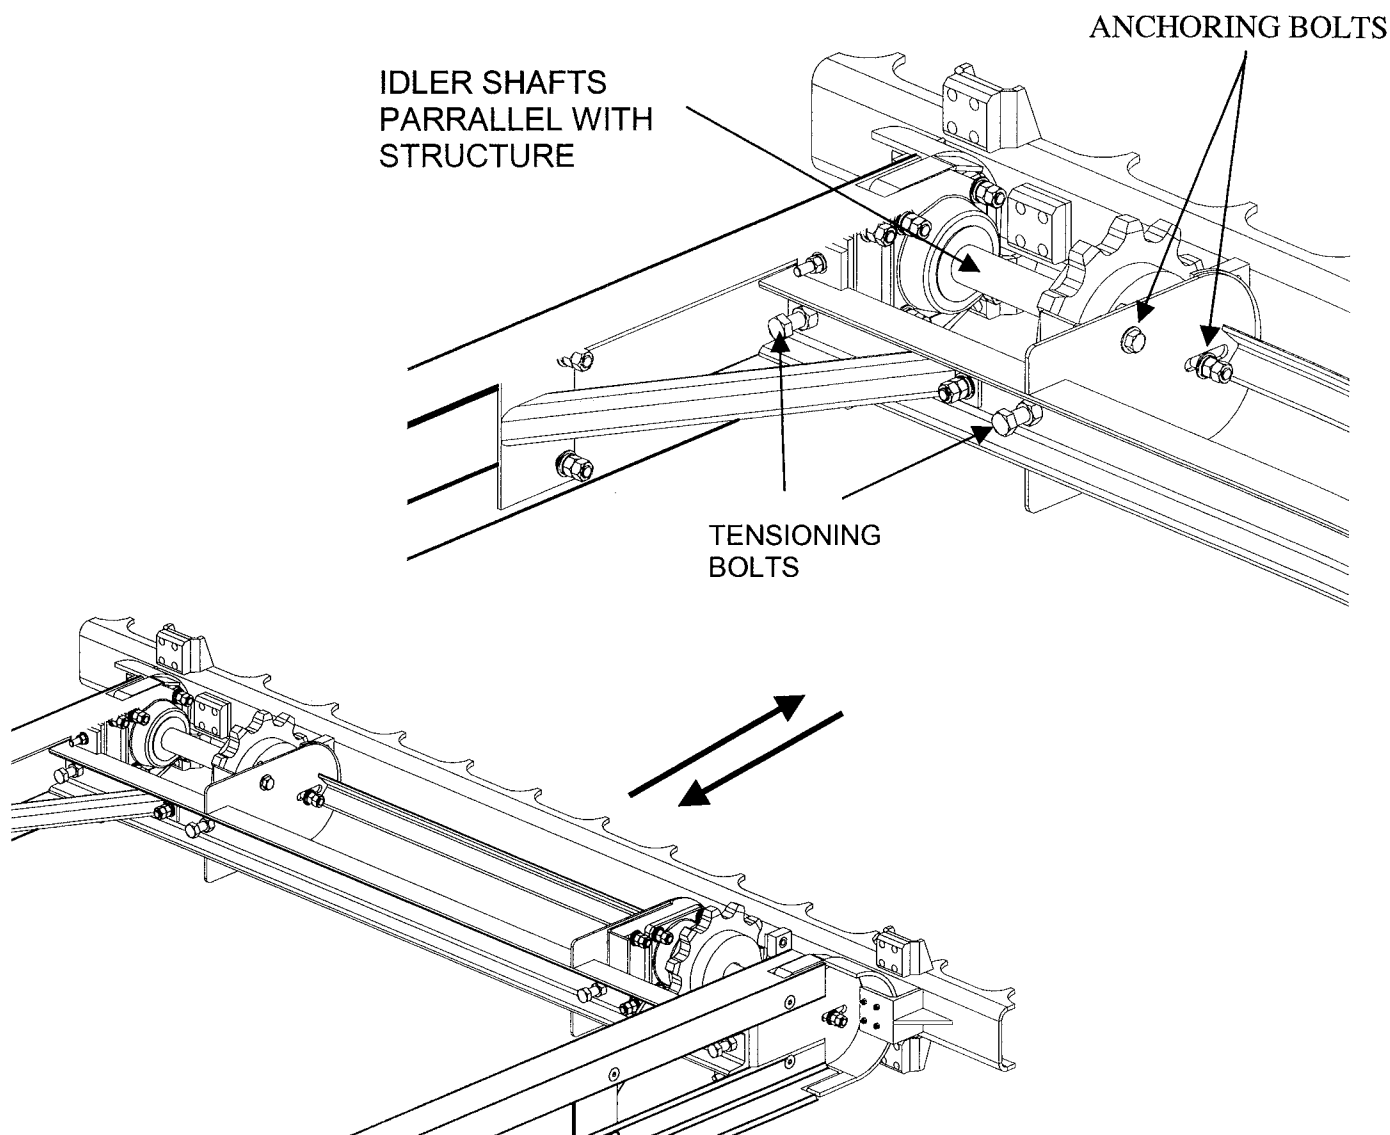

Figure 3-27 Return Bend Detail
For rakes with the standard metal chain there should be two (2) inches of slack when the rake flite chain is picked up at a point midway between flites. Refer to Figure 3-27. For plastic chain there will be additional slack to prevent over stressing the plastic chain. Refer to optional plastic chain in the appendix for additional information.